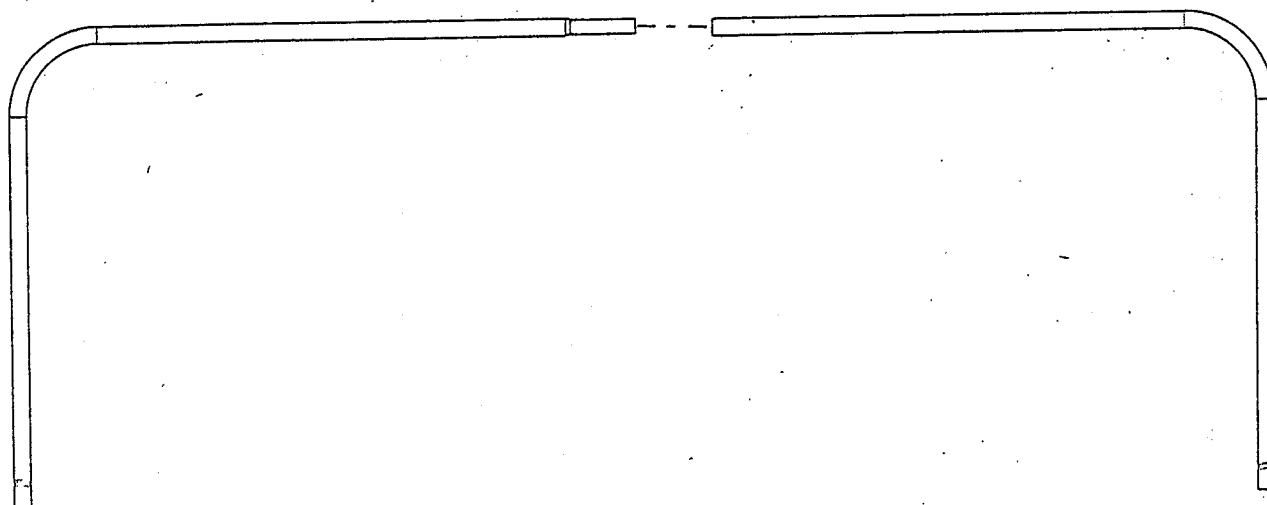

Figure 1.
5. Assemble bows by inserting tapered end into open end. ( see figure 1.)